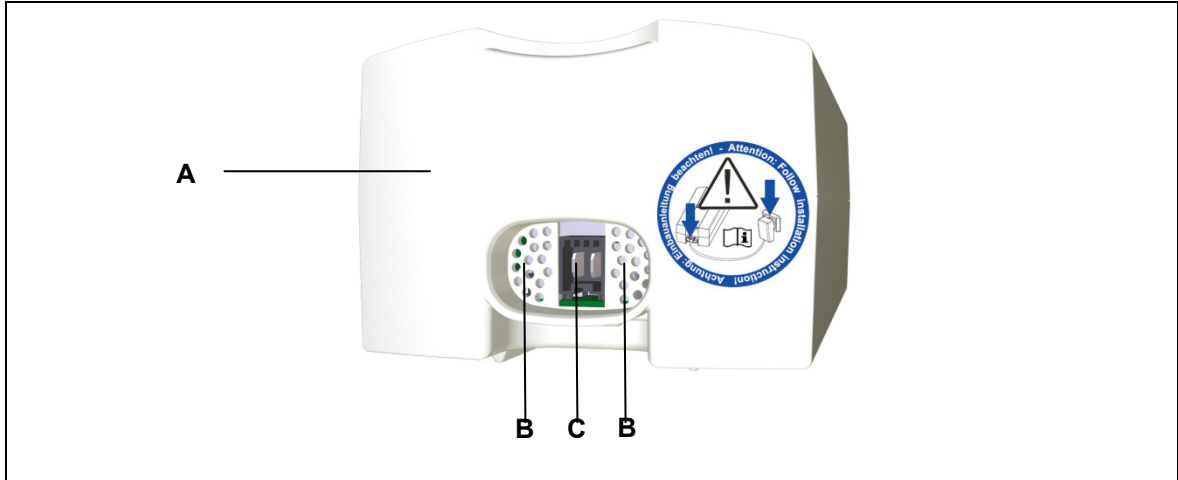
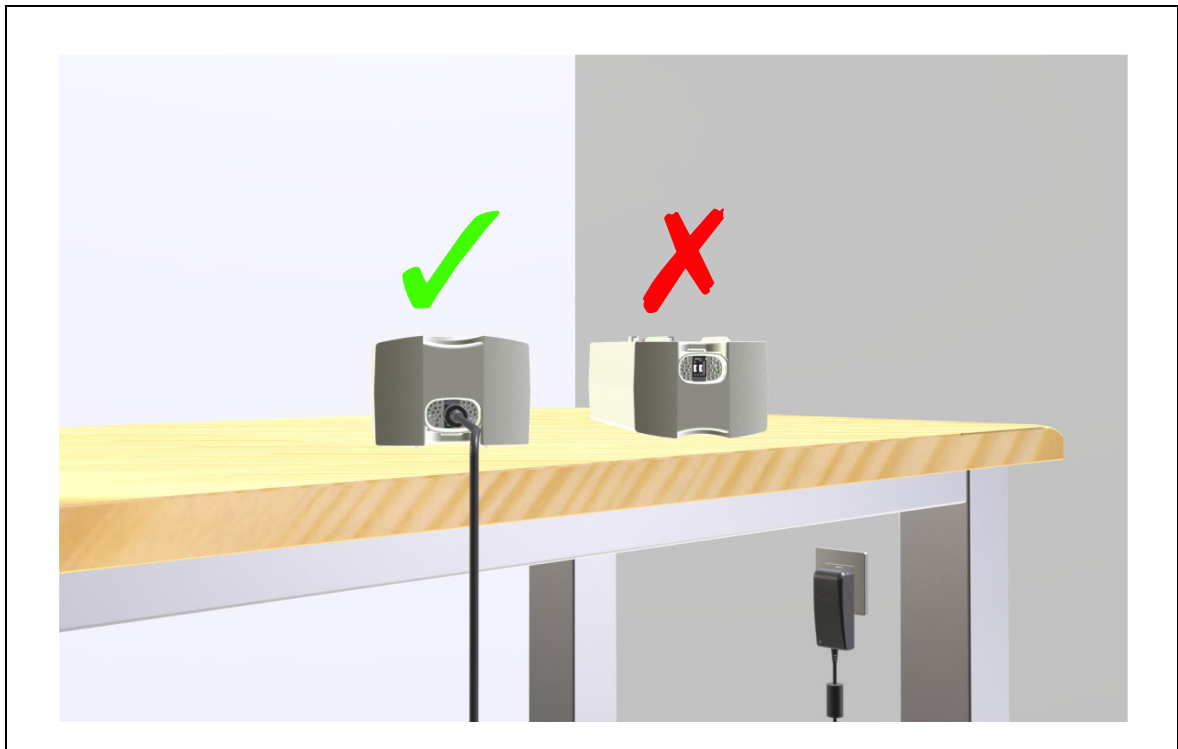
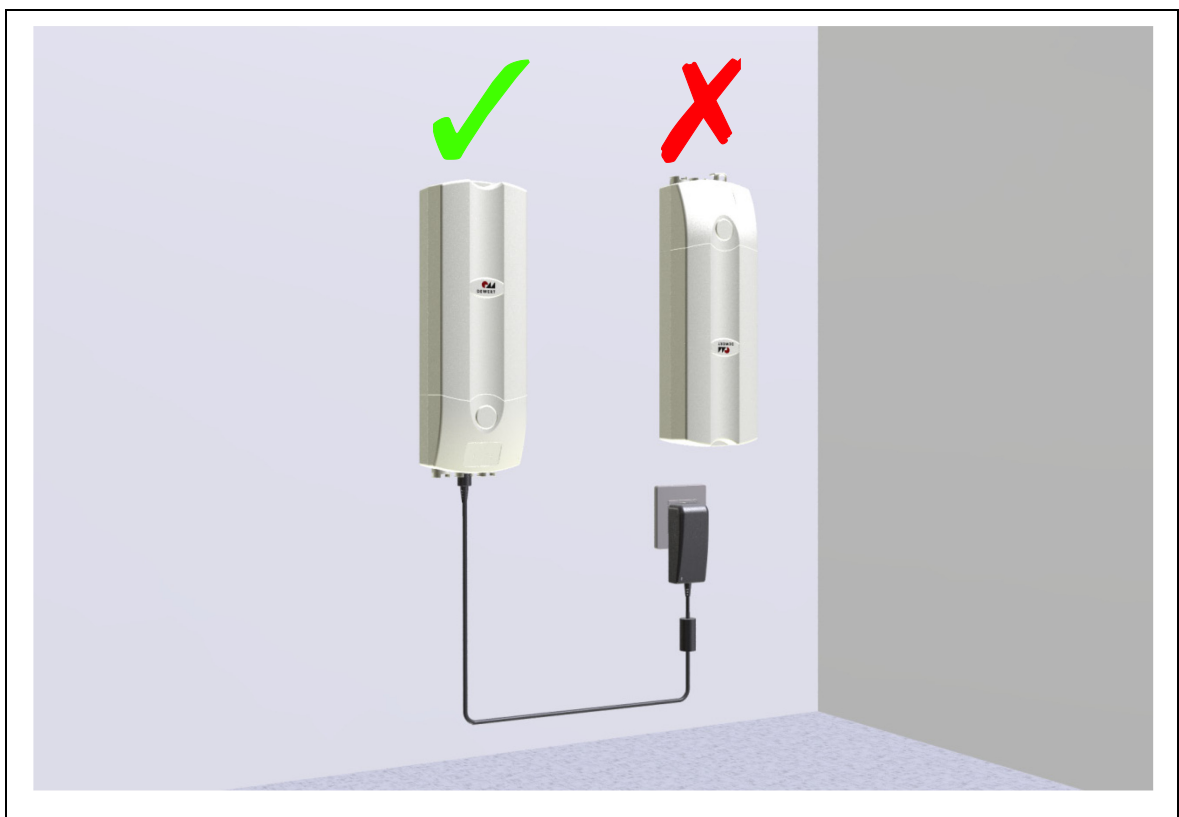

Figure 15 Connection ports and ventilation holes on the ACCU
Figure 16 Charging position of the ACCU AC 4.5 and ACCU AC 4.5DC
Figure 18 Charging position of the ACCU AC 4.5 and ACCU AC 4.5DC on the charger
- The ACCU should only be charged as shown in Figure 16, Figure 18 and Figure 21 (pages 34, 36 and 39).
<p>Use the PLUG-IN CHARGER PB 4.5 to charge the ACCU. They have been verified to work properly together.</p> <p>Note the following information when charging:</p> <ul style="list-style-type: none"> <li>• Charge the ACCU completely (for at least 10 hours) before first use. The built-in batteries achieve their full capacity only after 5 to 10 discharge cycles.</li> <li>• The ACCU's ventilation holes should not be covered during the charging (see B in Figure 15).</li> <li>• The ACCU should not rest upside down while charging (see Figure 18 on page 36).</li> <li>• Allow the ACCU to rest for about 1 hour after charging it; this will prolong its life-span.</li> <li>• Depending on your model, the battery charge status is displayed on either the handset or on the ACCUCONTROL control unit.</li> </ul>
<p>Make sure that the ACCU is in the correct position while charging. The ACCU may only be loaded when it is resting on its base (as shown in Figure 16).</p> <p>Do not place the ACCU upside down during charging.</p>
<p>Make sure that the ACCU is in the correct position while charging. When using the charging station, the ACCU may only be charged in an upright position (refer to Figure 18).</p> <p>The ACCU may not be upside down (in a horizontal position) while charging.</p>